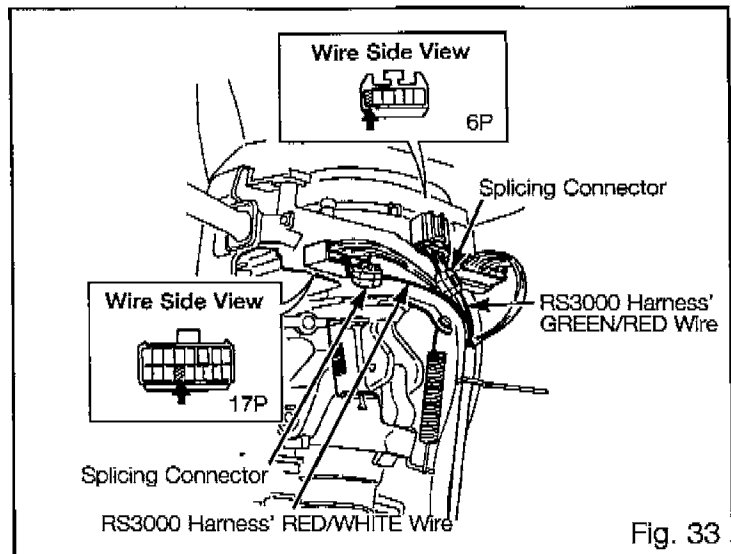

Fig. 33
- (15) A) Turn the 6P female (terminals) connector so the wires face you and the tab is on top. Fig 33
- B) Locate the wire in the left corner. Using a splicing connector, attach the RS3000 harness' GREEN/RED Horn wire. Fig 33
- C) Turn the 17P female (terminals) connector so the wires face you and the tab is on top. Fig 33
- D) Locate the wire in the bottom row, fourth space from the left. Using a splicing connector, attach the RS3000 harness' RED/WHITE Tail Light wire. Fig 33